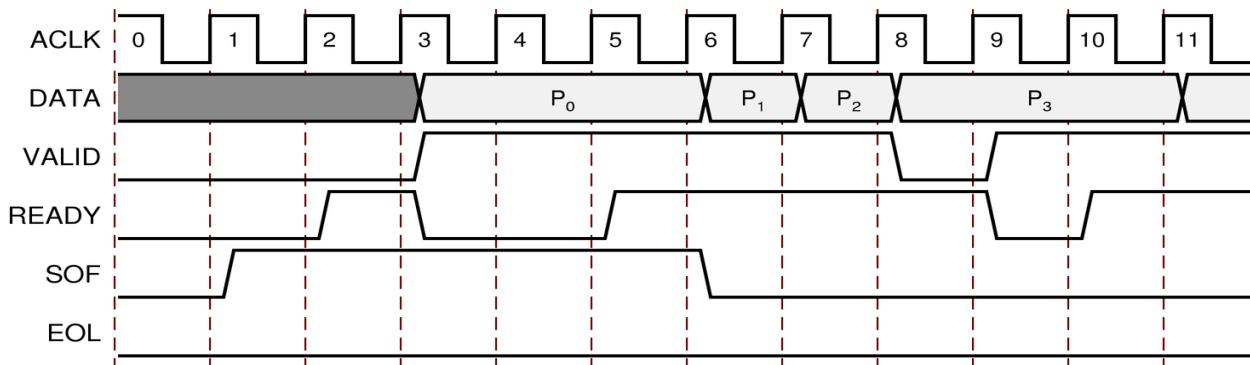

Figure 3-14: Example of Ready/Valid Handshake at Start of New Frame
**A valid transfer occurs when READY, VALID, ACLKEN, and ARESETn signals are high at the rising edge of ACLK, as shown in Figure 3-14, page 75. During valid transfers, DATA only carries active video data.**
Figure 3-14 shows an example of a READY/VALID handshake at the start of a new frame.
The Start-Of-Frame (`SOF`) signal, physically transmitted over the AXI4-Stream `TUSER0` signal, marks the first pixel of a video frame. The `SOF` pulse is 1 **valid** transfer wide, and must coincide with the first pixel of the frame shown in Figure 3-14, page 75.